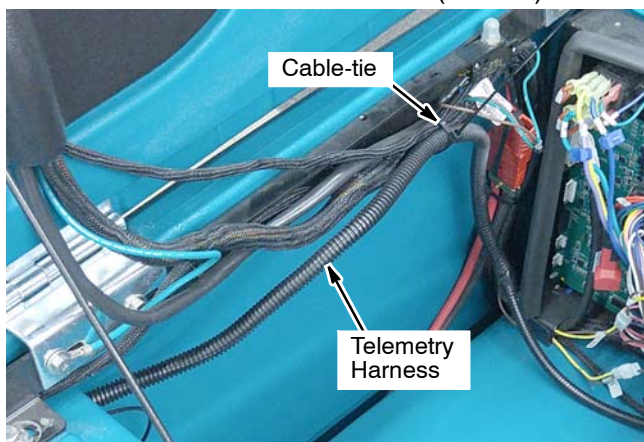

FIG. 27
13. Route the telemetry harness to the circuit board area. Secure telemetry harness to the main machine harness with cable-tie as shown (FIG. 27).